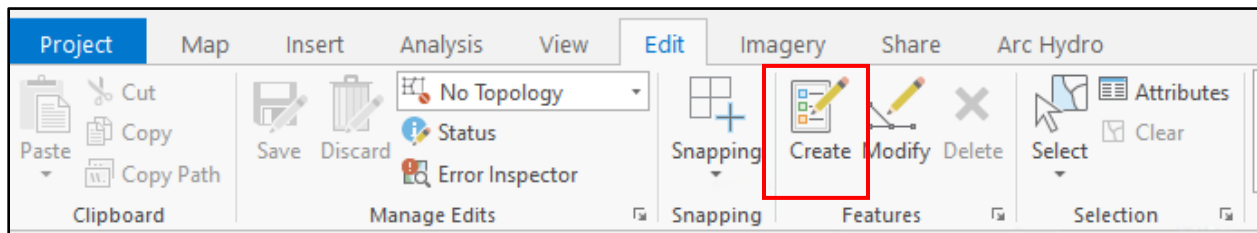

Figure 46
2. On the Edit tab, click “Create” (Figure 46). This will open the Create Features pane.